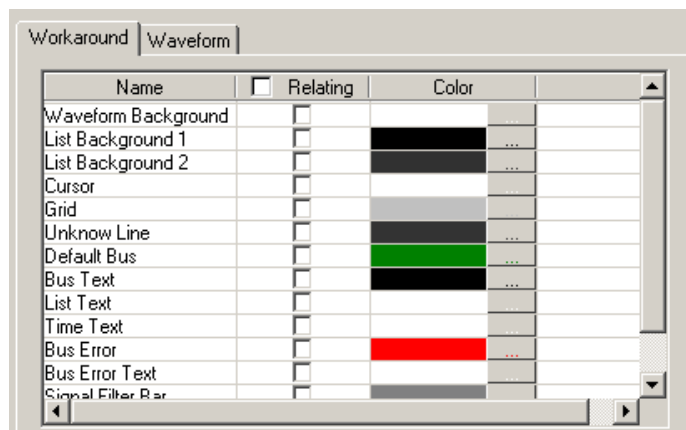
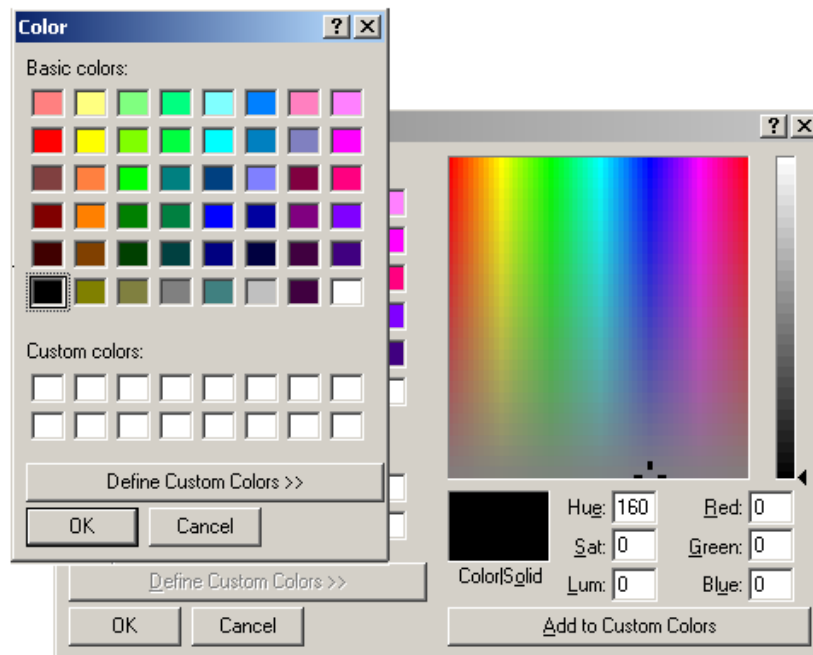

Fig 3-154: Workaround Color Interface
Fig 3-156: Color Panel with Its Advanced View
To modify the workaround color, click the color block shown in Fig 3-154. A **Color** panel, shown in Fig 3-156, will appear. Select a color shown on the panel or click on **Define Custom Colors** to create the desired color.
Step 3: Choose a color by following the method shown in Fig 3-156.